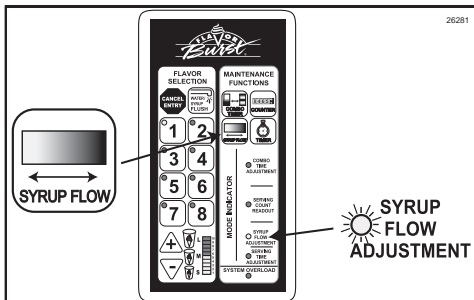

Figure 181
2. Press and hold the SYRUP FLOW key for three seconds until the SYRUP FLOW ADJUSTMENT light is illuminated. (See Figure 181.)